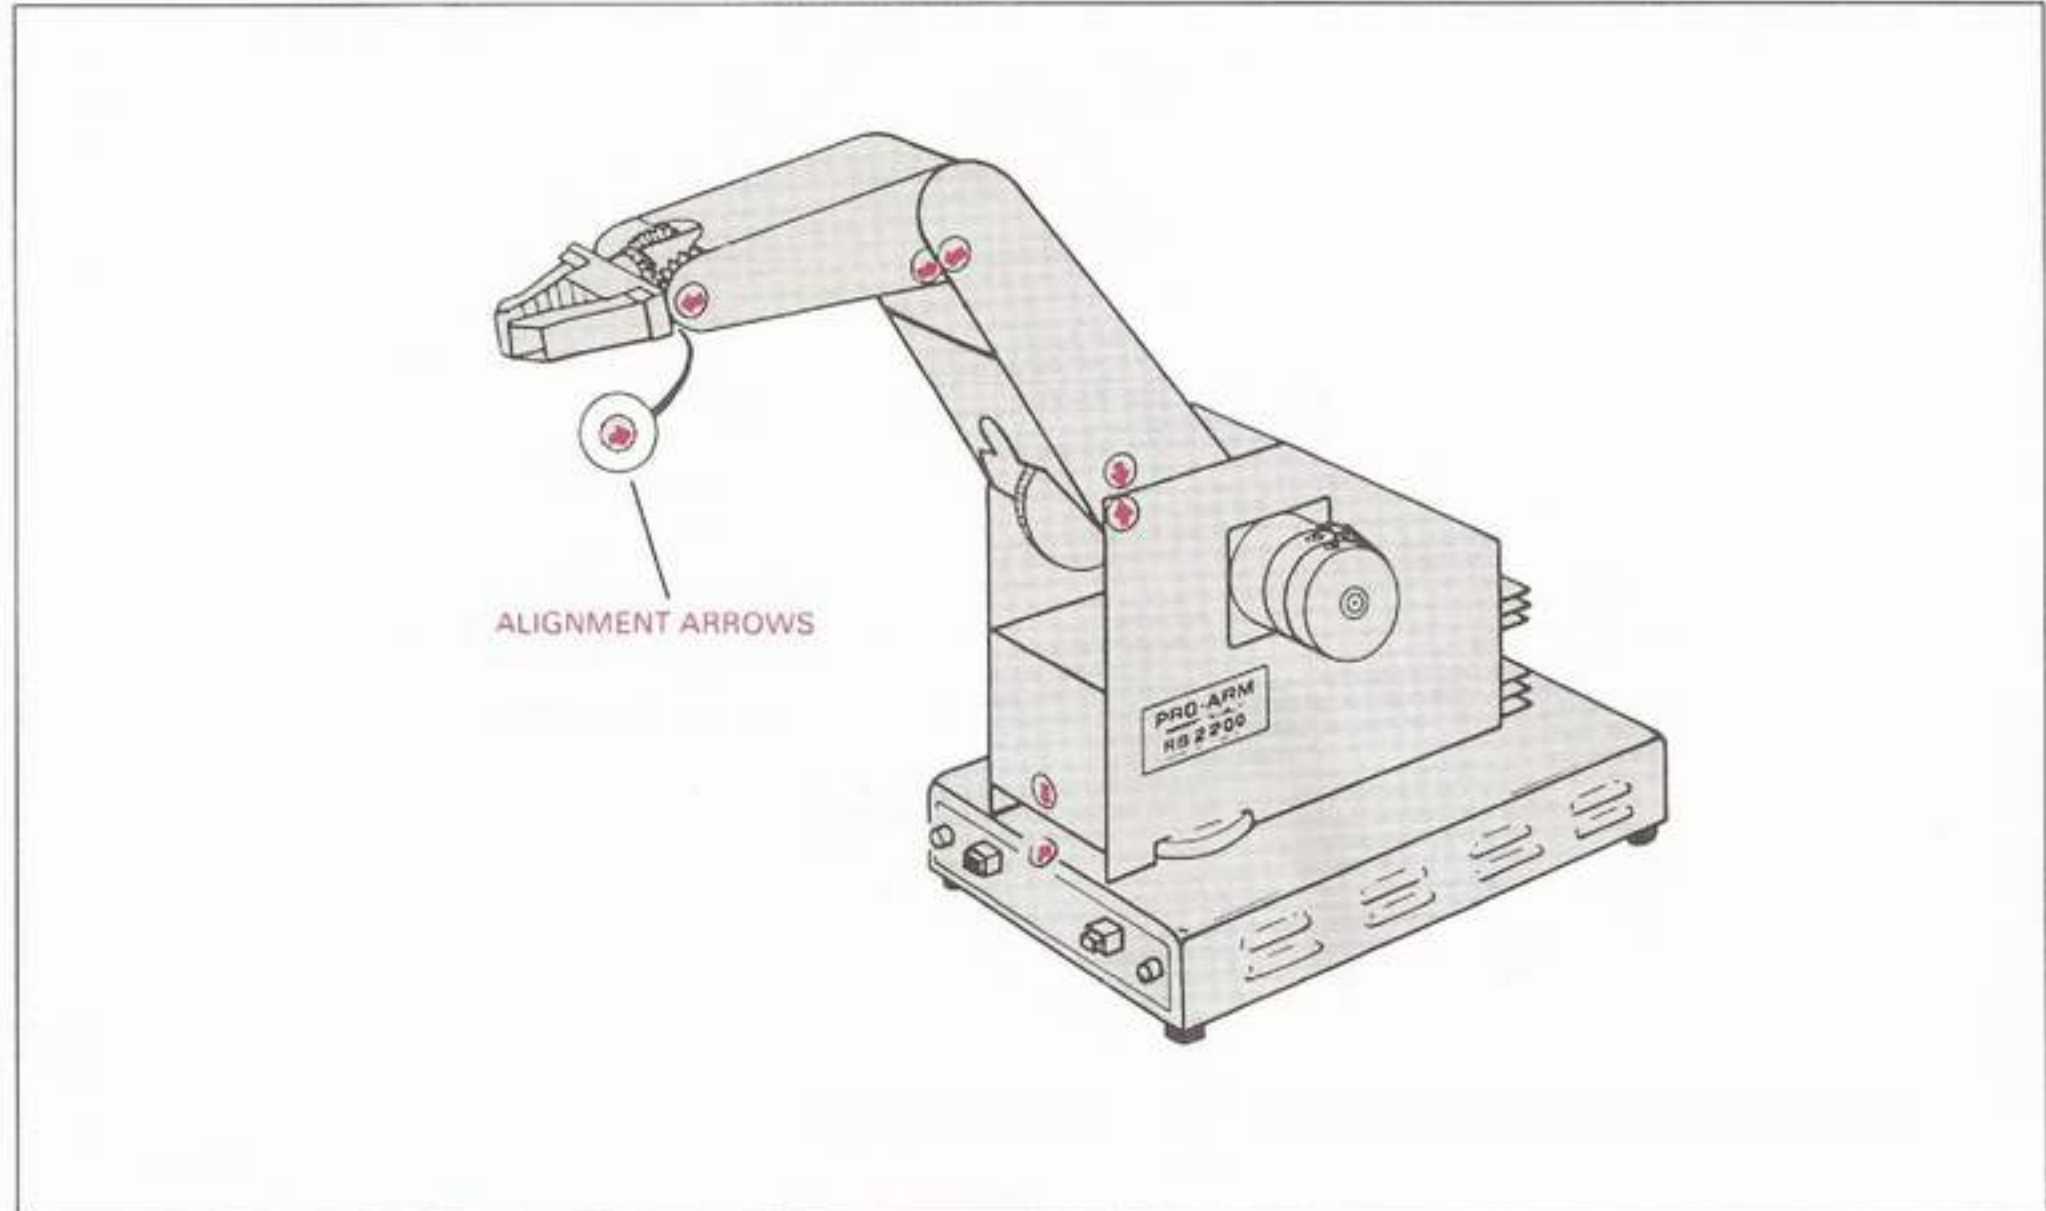
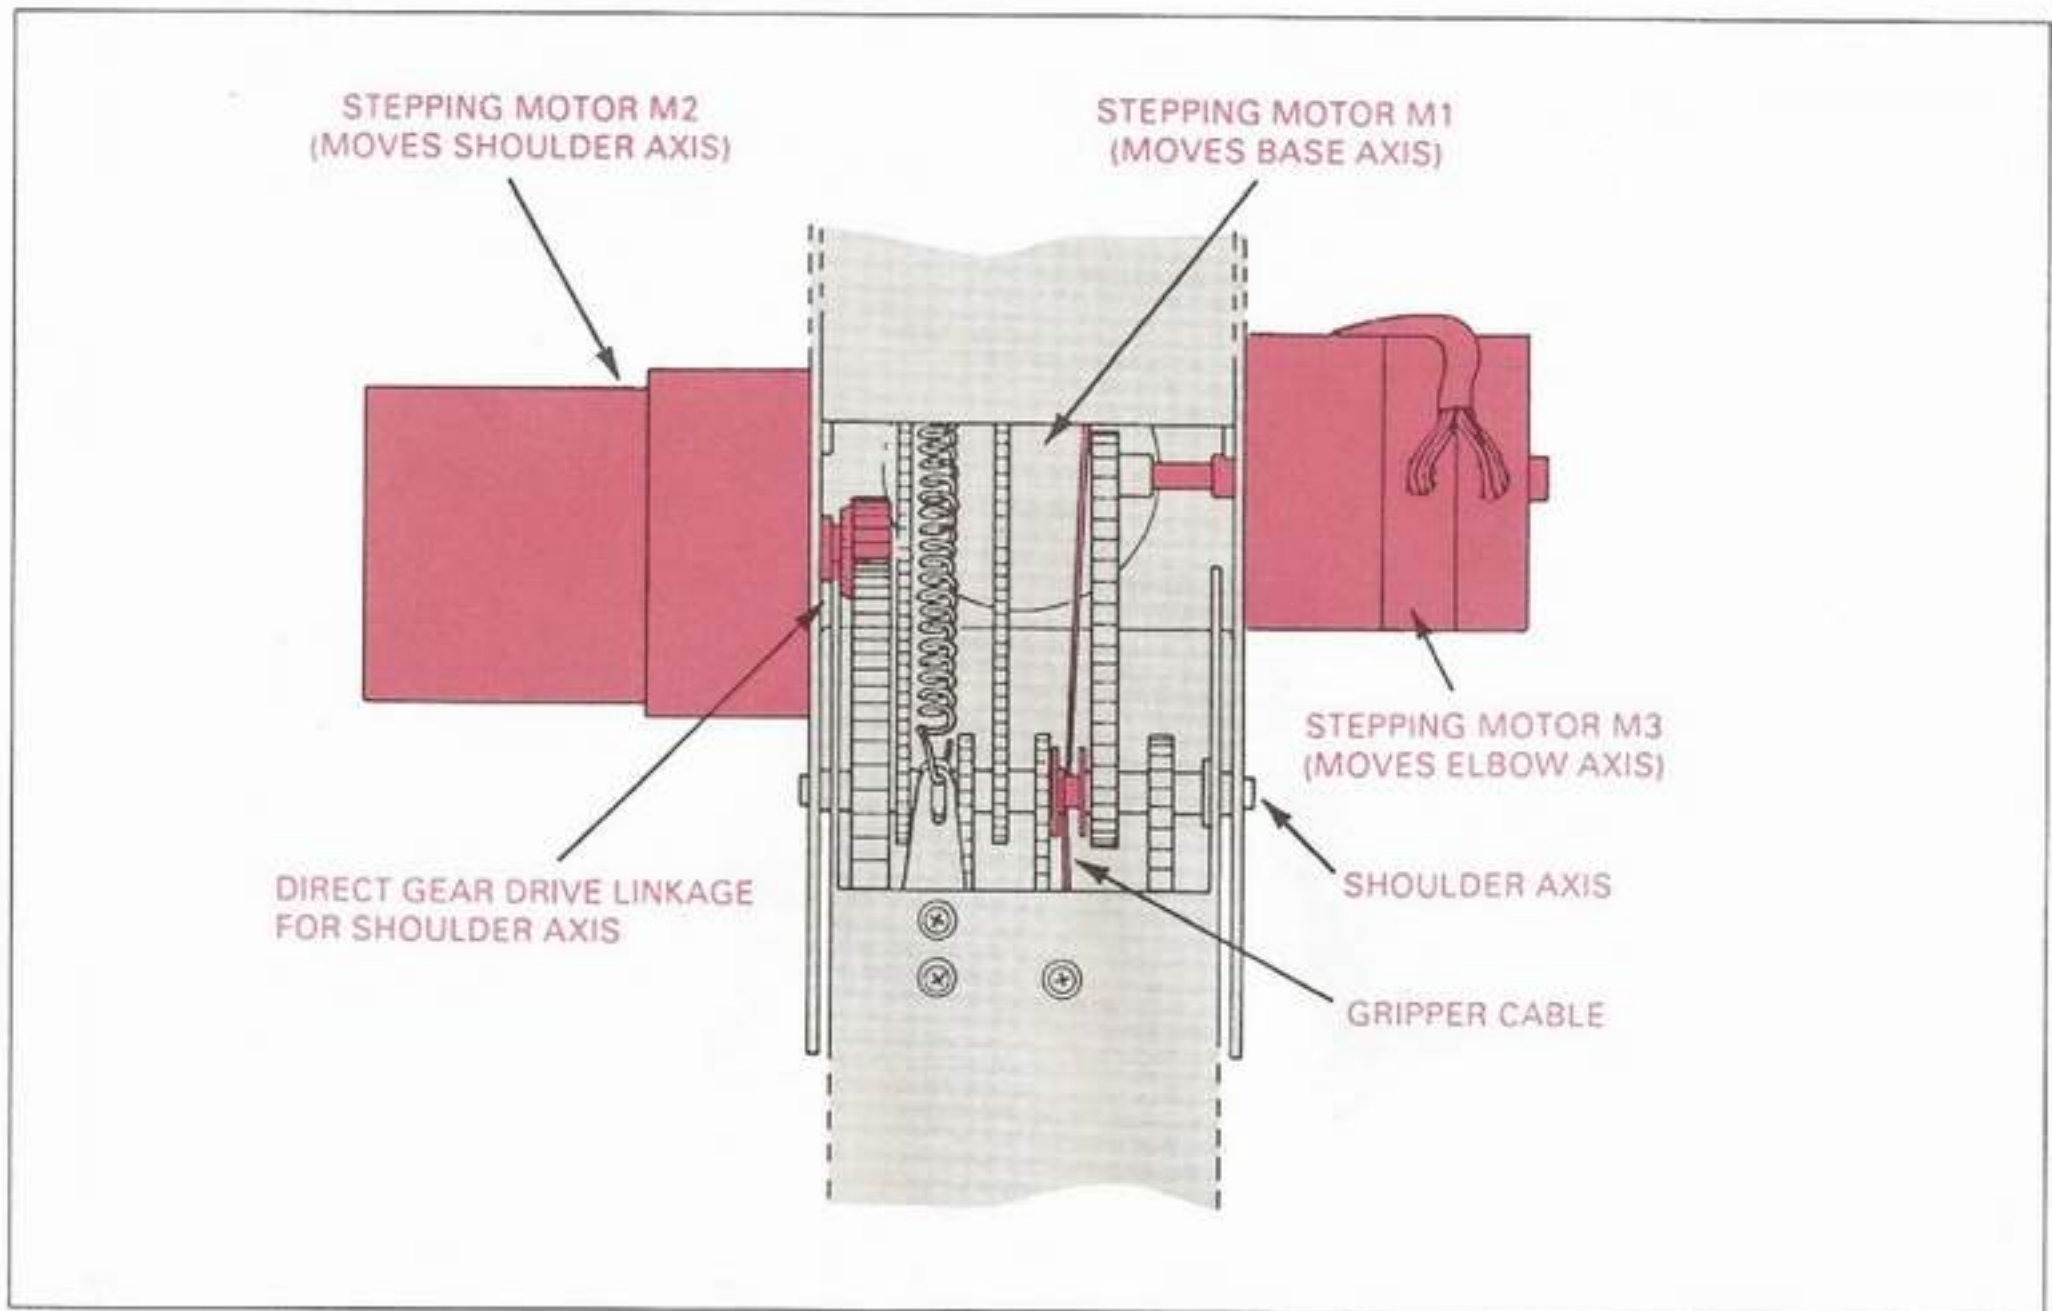
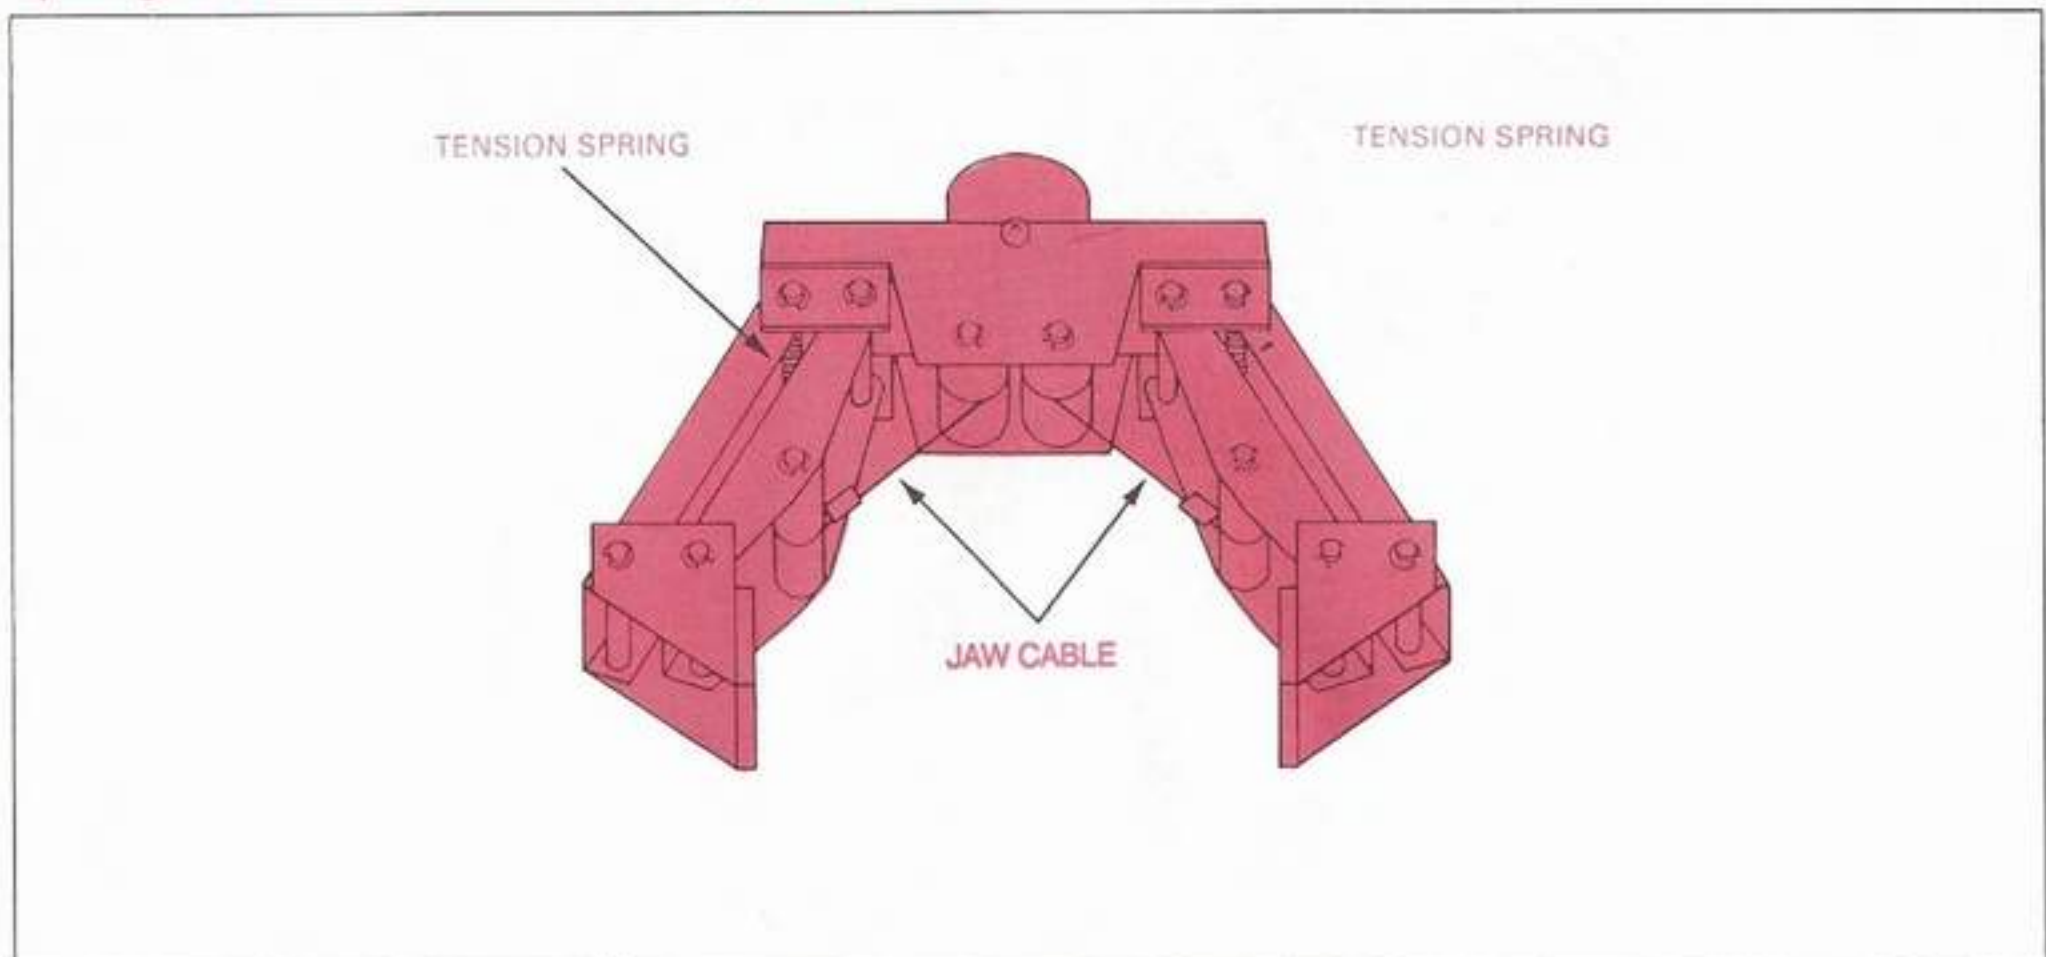

Fig. 17: Aligning the Arrows
Fig. 19: View from Top of Forearm
Fig. 20: The Pro-Arm's Gripper Assembly
Each time before using the Pro-Arm system, you must be sure that the arm is in its **"HOME"** or **"NEST"** position. This means that each axis must be aligned to its **"ZERO"** position. When the arrows on each side of a joint are aligned, as shown in Fig. 17, the axis is in its zero position. However, before you can learn how to zero position the axes, you must first learn how to move each axis.
- ___ c. Compare the positioning of each axis with respect to Fig. 17. Although it is not necessary that the zero-position arrows be perfectly aligned, they should be relatively close to alignment. If not, be sure to check with your instructor before proceeding.
- (1) Depress **RESET** button.
- (2) Depress **TEST** button.
- (3) Release **RESET** button.
- (4) Release **TEST** button.
- ___ e. Look down through the opening between the top of the forearm and the body, as shown in Fig. 19. Stepping motor **M1** should be visible. This motor is responsible for moving the Pro-Arm along its **BASE** axis, but because of its location within the body, its action cannot be directly observed.
___ i. Locate the large stepping motor on the left side of the Pro-Arm. This is motor **M2** and it is used to move the forearm around the **SHOULDER** axis. Its linkage to the forearm can be observed by again looking down through the opening between the top of the forearm and the body (Fig. 19). This is also direct gear-drive linkage, as in motor **M1**, since the small gear on the end of the motor shaft drives the large gear fastened to the side of the forearm.
- ___p. Notice that the GRIPPER is controlled by stepping motor M6, which is mounted inside the body behind M4, and hidden from view. The gripper is connected to M6 by the use of a small, steel cable, which is allowed to relax when M6 turns in one direction, opening the gripper. When M6 turns in the opposite direction, the cable is tightened and the gripper is pulled closed. See Fig. 19 and Fig. 20.